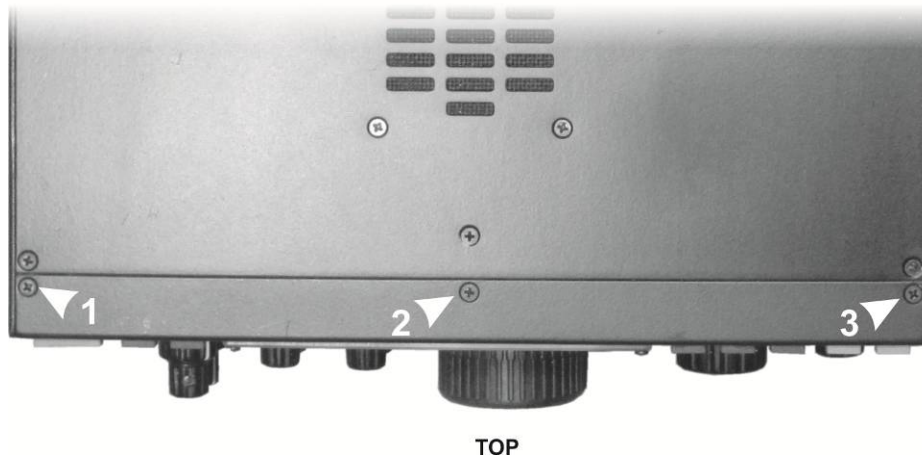

Figure 3. Removing the Top Front Panel Screws.
- ☐ Remove the three screws on the top lip of the front panel (see Figure 3)